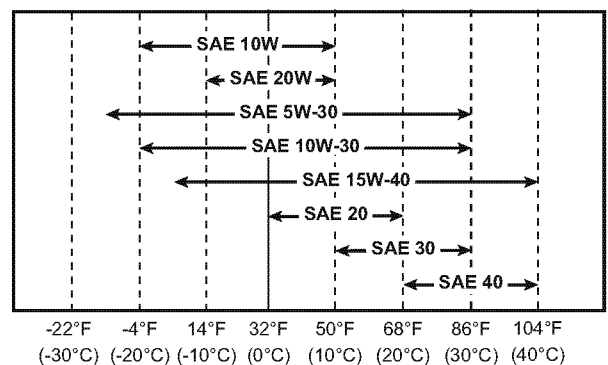

Figure 4-4
- Select the oil viscosity based on the ambient temperature where the engine is being operated. See the SAE service grade viscosity chart (**Figure 4-4**).
Select the appropriate engine oil viscosity based on the ambient temperature and use the SAE service grade viscosity chart in **Figure 4-4**.